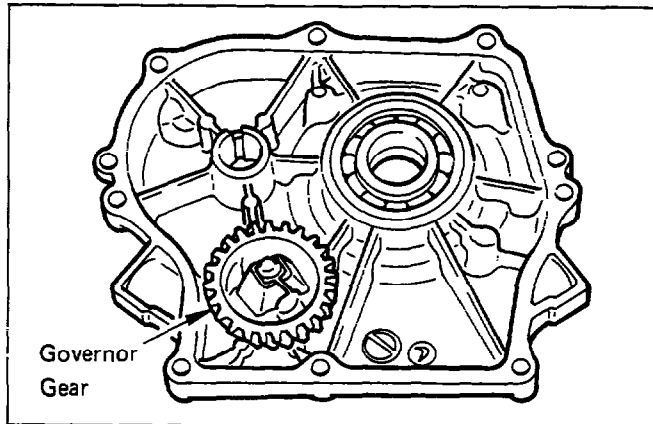

Fig. 9-4-7
**Note:** As the governor gear has been mounted on the main bearing cover, it is necessary in setting, to confirm that the governor gear is meshed with the cam gear (See Fig. 9-4-7). If replacement of the oil seal is required, pressure-fit the new oil seal prior to installing the main bearing cover to the specified position.